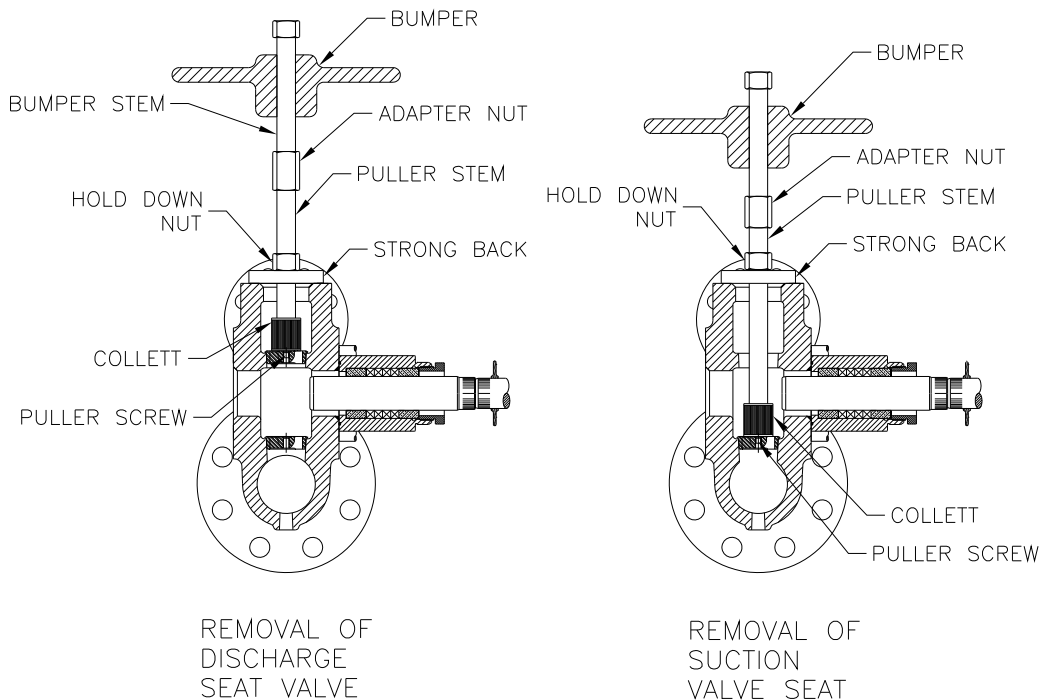

FIGURE 12
- g. Use the special valve puller and remove the seat. See Figure 12.